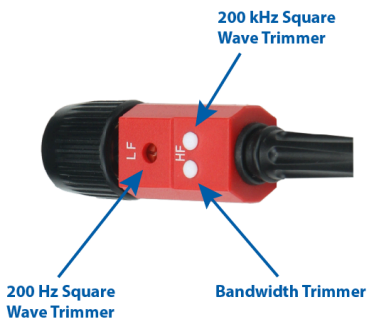
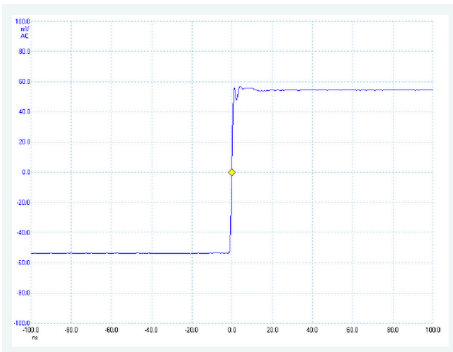

Figure 3: Frequency Compensation Trimmers
Figure 5: Good Compensation
3. Turn the 200 Hz Trimmer (Figure 3) using the Trimmer Tool, making a flat topped square wave (Figure 5).
6. Turn the 200 kHz Trimmer for a flat topped square wave (Figures 3 & 5).
7. Turn the Bandwidth Trimmer for tuning the probe's bandwidth (Figure 3).
Figure 5 shows a perfectly compensated probe.